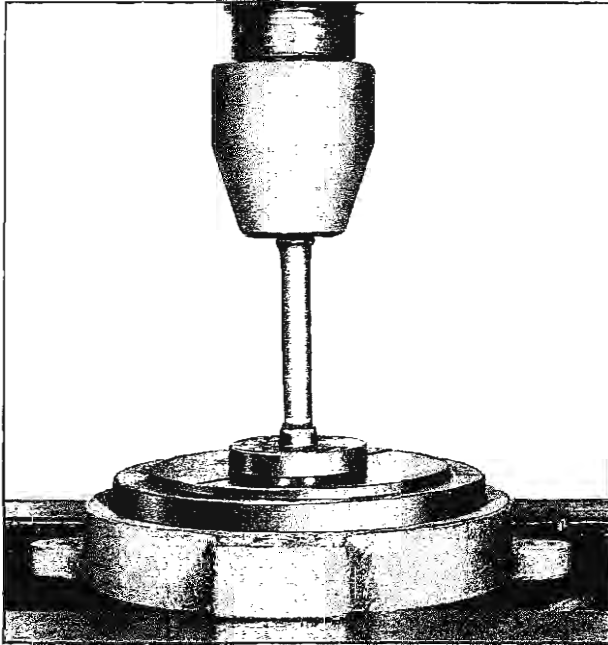

Fig. 6A-19 Pressing Pump Shaft From Hub (6 Cyl.)
7. Support impeller with press plates J-9156 and J-6407. Press shaft with bearing out of impeller using 1/2" O.D. bar (Fig. 6A-21).